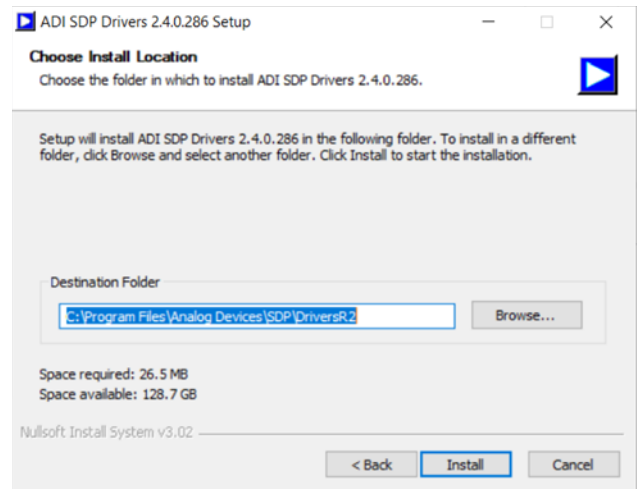

Figure 9. ADI SDP Drivers 2.4.0.286 Setup Choose Install Location Window
5. Click **Next >** to install the files to the default destination folder or click **Browse** to choose a different destination folder (see Figure 9).